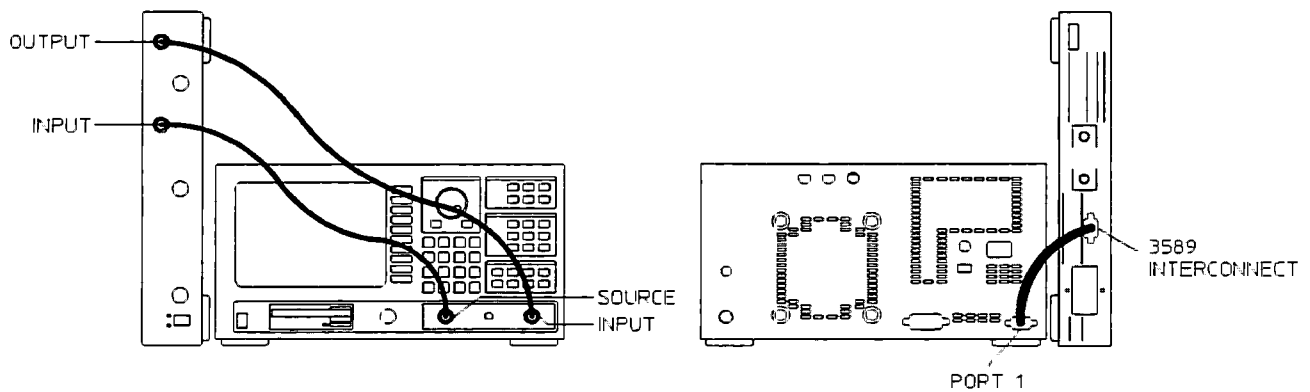

Figure 4-26. Troubleshooting Setup
- b. Position the test set on its side next to the analyzer's display (see figure 4-26). Using 50 Ω N cables, connect the test set's INPUT connector to the analyzer's SOURCE connector and the test set's OUTPUT connector to the analyzer's INPUT connector. Using the interconnect cable, connect the analyzer's PORT 1 connector to the test set's 3589 INTERCONNECT connector.
The test set is in its test position (see figure 4-26). The analyzer's SOURCE is connected to the test set's INPUT, the test set's OUTPUT is connected to the analyzer's INPUT. PORT 1 and PORT 2 are not connected.
The test set is in its test position (see figure 4-26). The analyzer’s SOURCE is connected to the test set’s INPUT, the test set’s OUTPUT is connected to the analyzer’s INPUT. PORT 1 and PORT 2 are not connected.